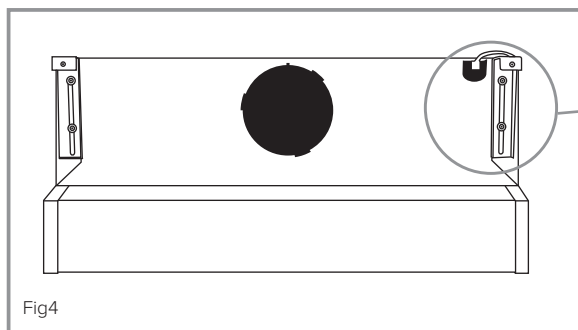

Fig 4
4. Hang the hood on the brackets and adjust the brackets and height to suit. The adjustment mechanism is shown in Fig. 4.